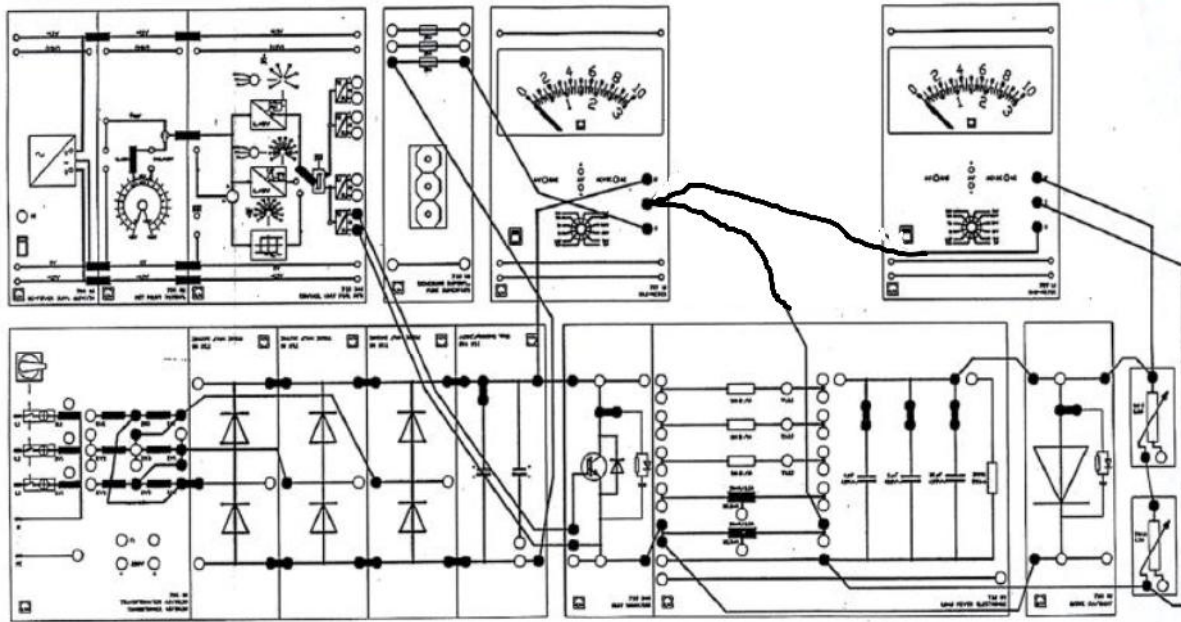

Figure 6.5 Configuration of the equipment as a Step-down/Step-up converter implementing an IGBT
- 1) Connect the actual equipment in a Step-down/Step-up converter as shown in Figure 6.5. Use “Rectifier B6 3X400V, 10A (Cat. No. 735 65)” instead of 3 single legs! The load is a resistive type and consists of two rheostats set, initially, to their maximum values, 100 Ω and 330 Ω ; i.e. 430 Ω .